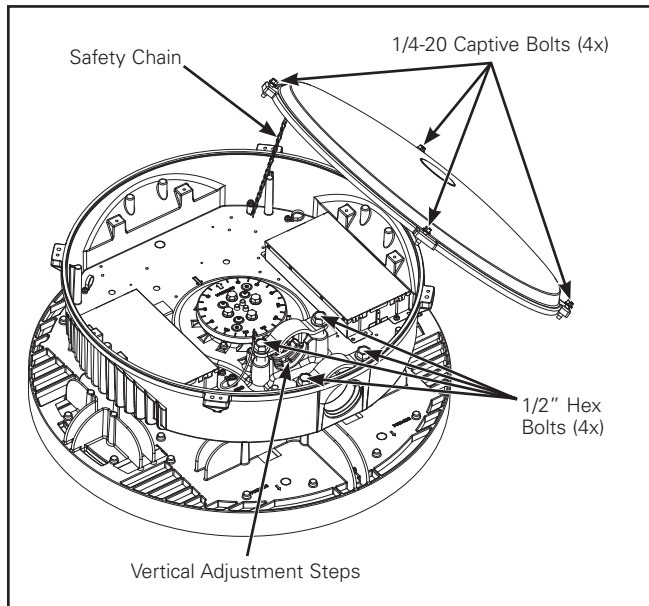

Figure 1.
2. Loosen four captive 1/4-20 hex head screws to remove driver housing cover using 3/8" socket driver. (Figure 1.)